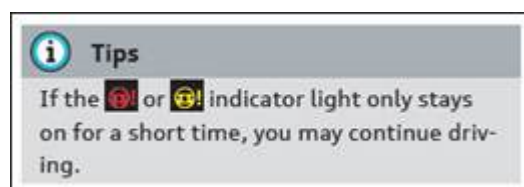

Figure 1. Owner's Manual Tip
- The message could be either of the following, as illustrated in the owner's manual (Figure 1):